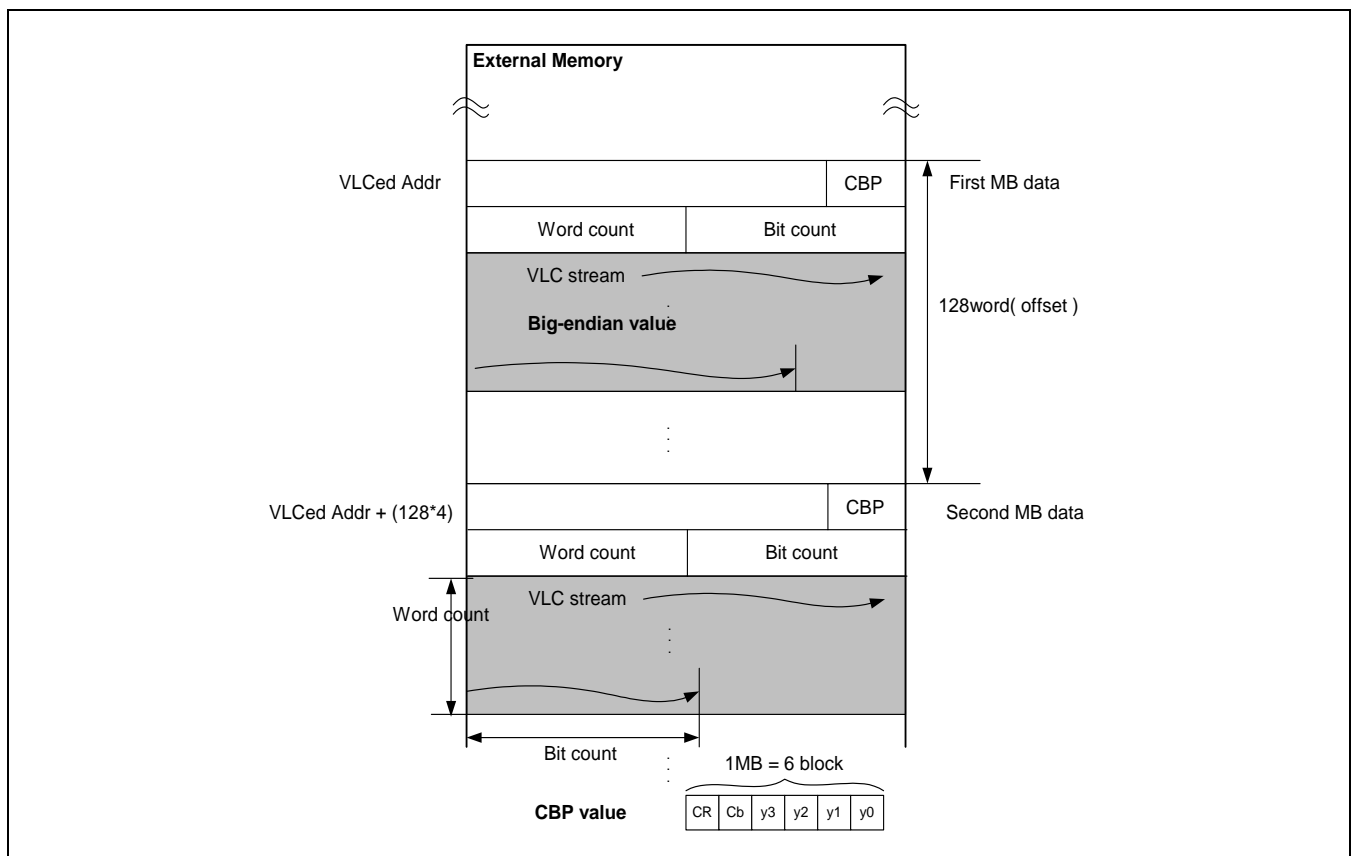

Figure 26-4. VLC output bit stream format
- VLC output save external memory on 1 word value. Not coded information, from MSB to LSB data. {word count(16-bit), bit count(16-bit) }, VLC coeff. ordered save.VLX output in VLC mode are CBP information, Word count, Bit count VLCed stream data. Figure 26-4 show the output format in VLC mode.
- One MB has six block so CBP information is six bit output. 0 bit is y0 block and 5 bit is Cr block. Figure 26-4 show the CBP bit information.